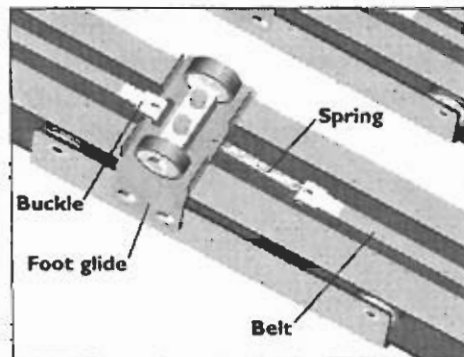

Figure 2
2. Grasp the foot glide you wish to remove. Use your other hand to push the buckle toward the foot glide until the belt can be disconnected (Figure 2).